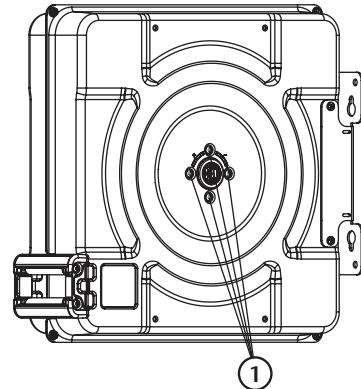

Fig. 6
3. Take away the bolts (1) (fig. 6) which are used to hold the spring fixation. Doing this, the spring fixation will be free to rotate, avoiding the spring of getting tension.